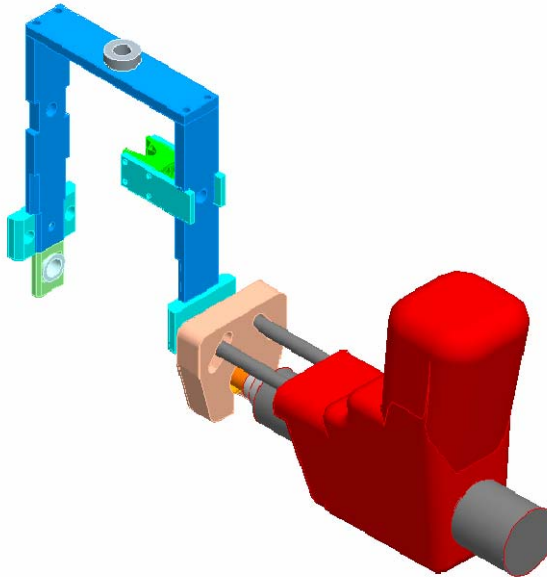

Figure 11- Stud Weld Fixture
- Position the stud alignment fixture Figure 11- Stud Weld Fixture onto the casting using the tapped hole in the septum to secure the fixture in place. Check the orientation of the fixture to the casting prior to welding.